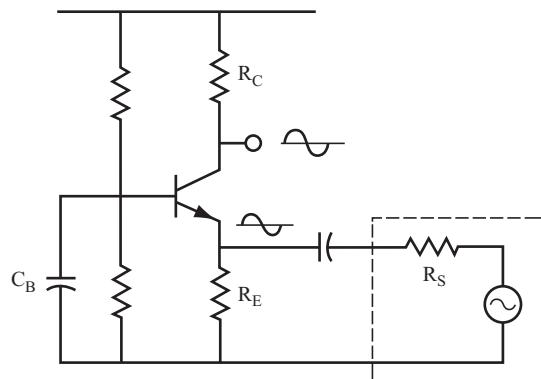

FIGURE 9.7
- 6** In the circuit shown in Figure 9.7, an input signal is applied to the emitter of the transistor instead of the base. This circuit is called a *common base amplifier*.
What is the voltage gain formula for the circuit shown in Figure 9.7? _____
7 Notice that the input and output sine waves in Figure 9.7 are in phase. Although the signal is amplified, it is not inverted.
In a common base circuit, you can add a capacitor (C_B) between the base and the ground, as is shown in Figure 9.7.